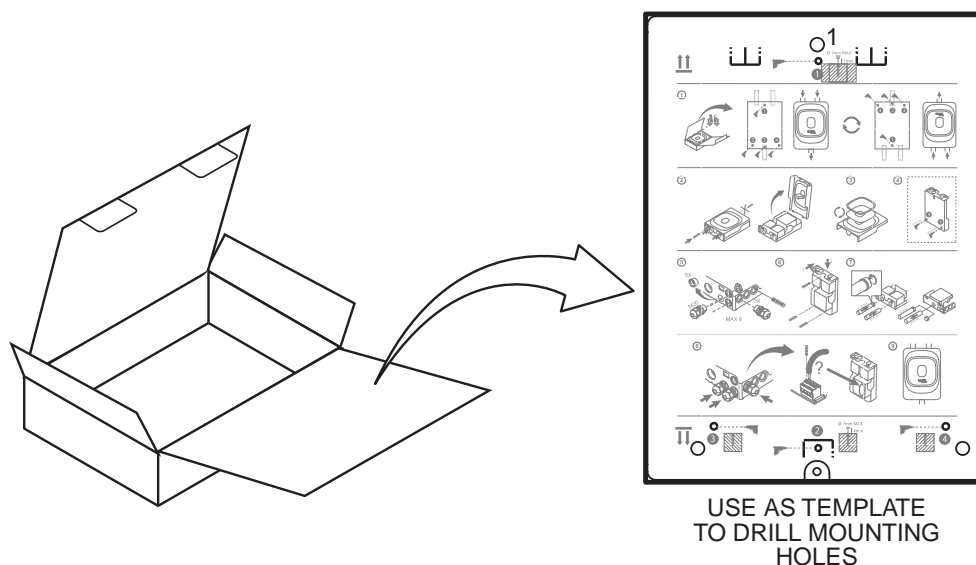

Figure 3-2: Mounting Template
1. The cover of the box FAAST FLEX, a template for the mounting holes is provided (see Figure 3-2).